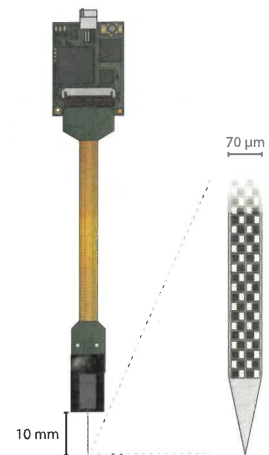

Figure 2. Neuropixel 1.0 probe²
- 1.0 probes are tailored for the rodent experiments and offer simultaneous recording of any combination of 384 recording sites out of 960 sites per shank (Fig. 2)